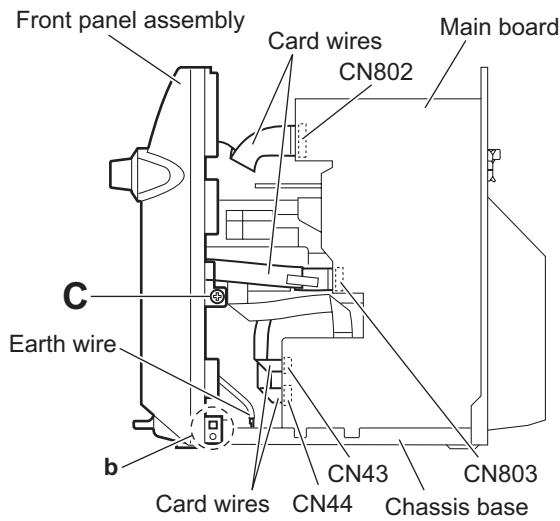

Fig.4
3.1.2 Removing the front panel assembly (See Figs.4 to 7)
- (1) From the right side of the main body, disconnect the card wires from the connectors (CN43, CN44, CN802, CN803) on the main board. (See Fig.4.)
- (2) Disconnect the earth wire from the chassis base. (See Fig.4.)
- (5) From the both sides of the main body, remove the two screws C attaching the front panel assembly. (See Figs.4 and 6.)
- (7) Release the joints b of the front panel assembly from the chassis base and remove the front panel assembly in the direction of the arrow. (See Figs.4,6 and 7.)